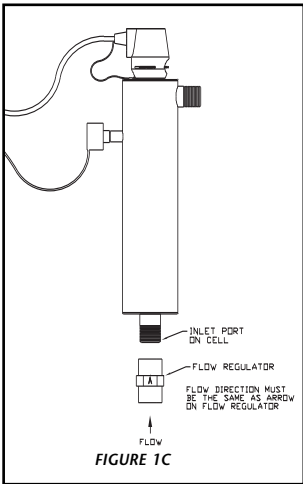

FIGURE 1C
3. Mount the system to the wall using the supplied clamps. Various connection methods can be used to connect the water source to the system, however union type connectors are recommended. The use of a flow restrictor device is strongly recommended when installing your system in order that the manufacturers recommended flow rate is not exceeded. This flow restrictor is mandatory on the SPV series systems and is included with these systems. The flow restrictor should be installed on the inlet port and is designed to be installed in one direction only. Ensure that the flow of the water matches the flow direction as indicated on the flow restrictor (Figure 1c). **DO NOT SOLDER CONNECTIONS WHILE ATTACHED TO THE SYSTEM AS THIS COULD DAMAGE THE O-RING SEALS.**